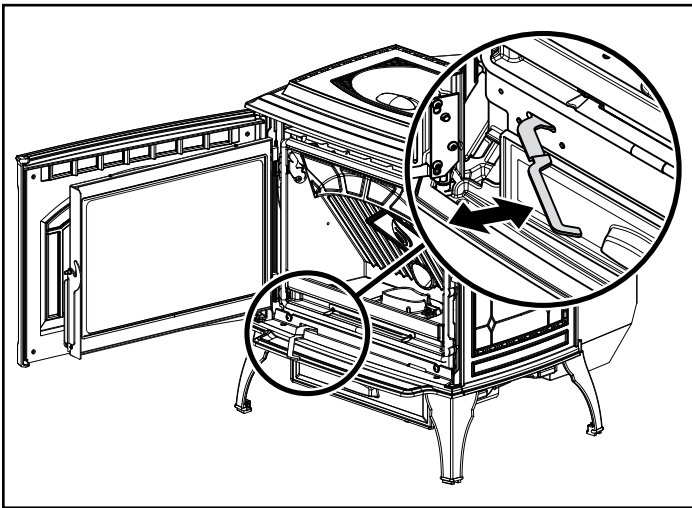

Figure 20.1
- c. Pull fire pot floor cleaning lever two times until the ash falls into the ash pan below (**Figure 20.1**).